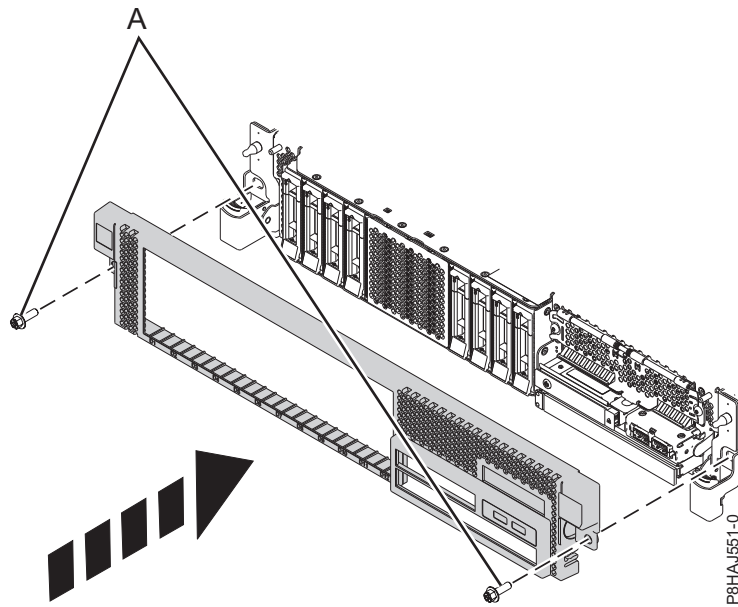

Figure 19. Installing the front cover
3. Close the release latches by pushing in the direction shown in Figure 19 on page 35. The cover snaps into place and has an indentation where you can hold onto it more easily.
4. Replace the shipping screws (A).